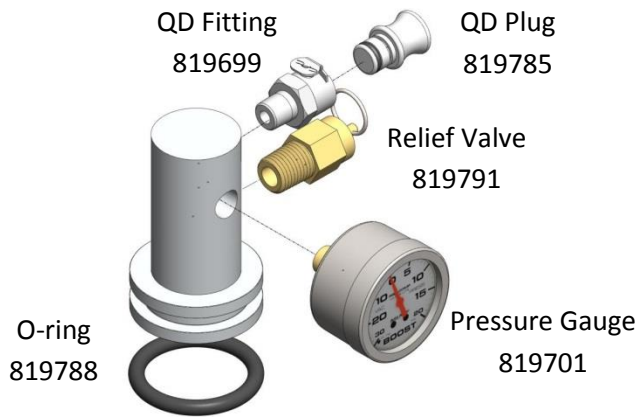

Figure 6: Top manifold assembly 11711-1.
e. Replacement parts are shown in Figures 6 and 7.